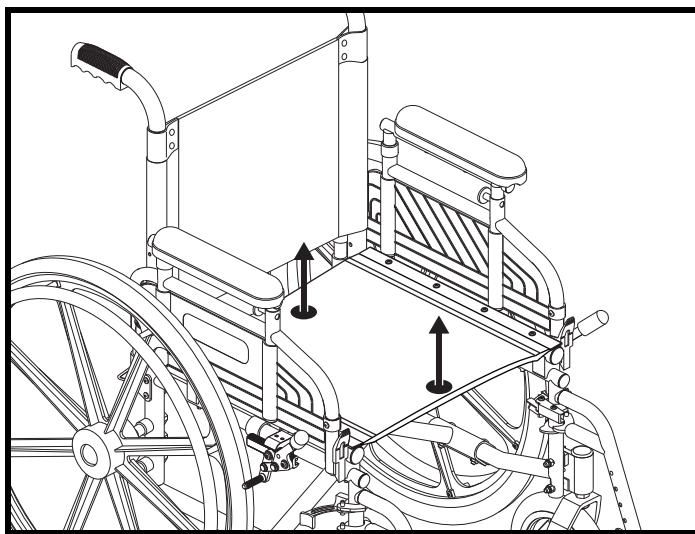

Figure 9. Folding the Stylus LS
3. Hold the seat base by the center at the front and at the back. See figure 9.